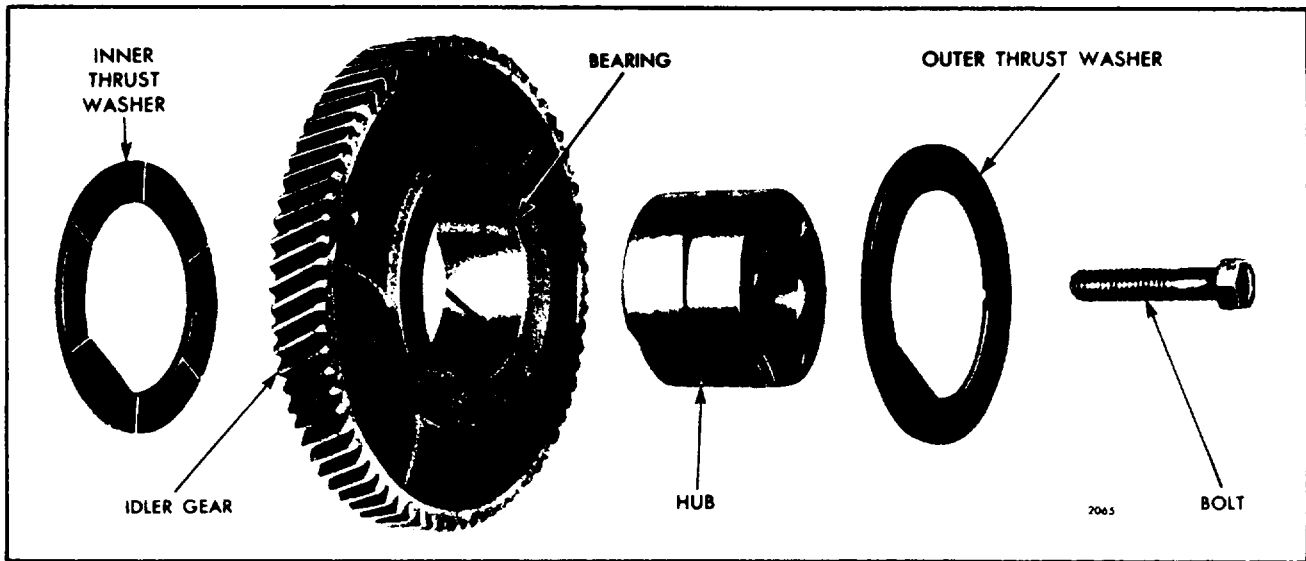

Fig. 3. - Idler Gear Details and Relative Location of Parts
1. Remove the idler gear outer thrust washer from the idler gear hub (Fig. 3.).